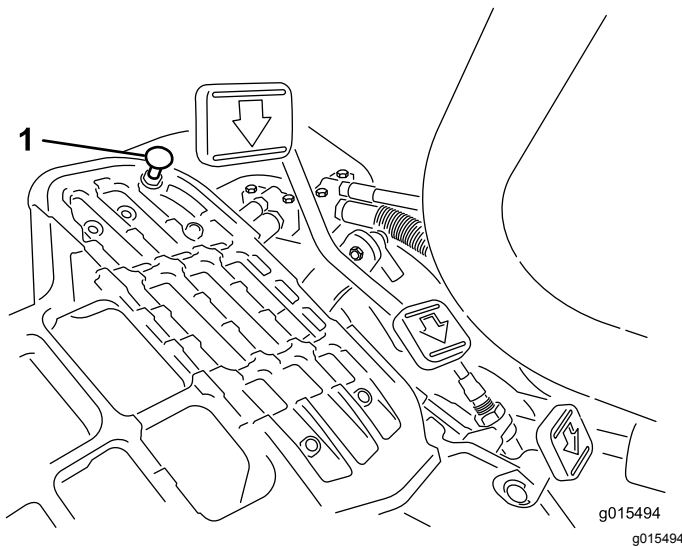

Figure 33
To obtain the maximum-transport speed, put the functional control lever in the TRANSPORT position and press down on the traction pedal. If the pedal contacts the stop (Figure 33) before you feel tension on the cable, perform the following adjustment procedure:
1. Put the functional-control lever in the TRANSPORT position and loosen the locknut securing the pedal stop to the floor plate (Figure 33).